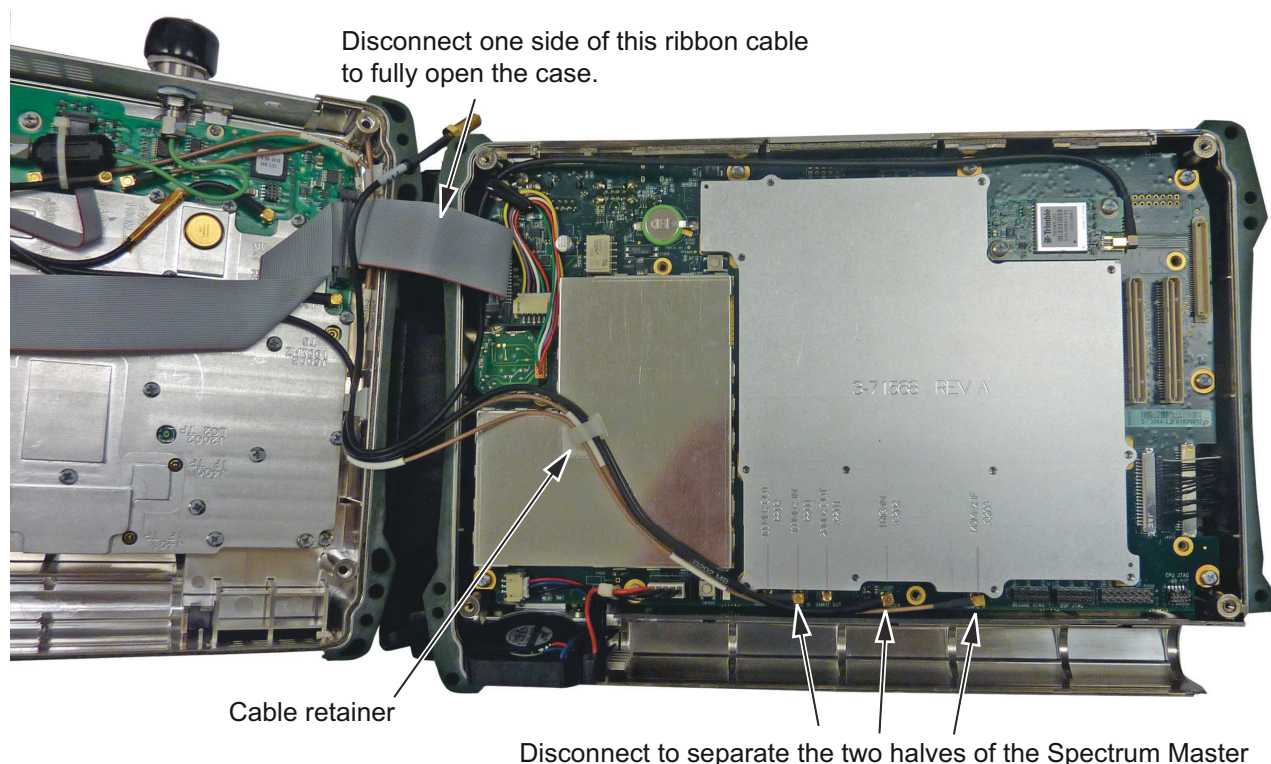
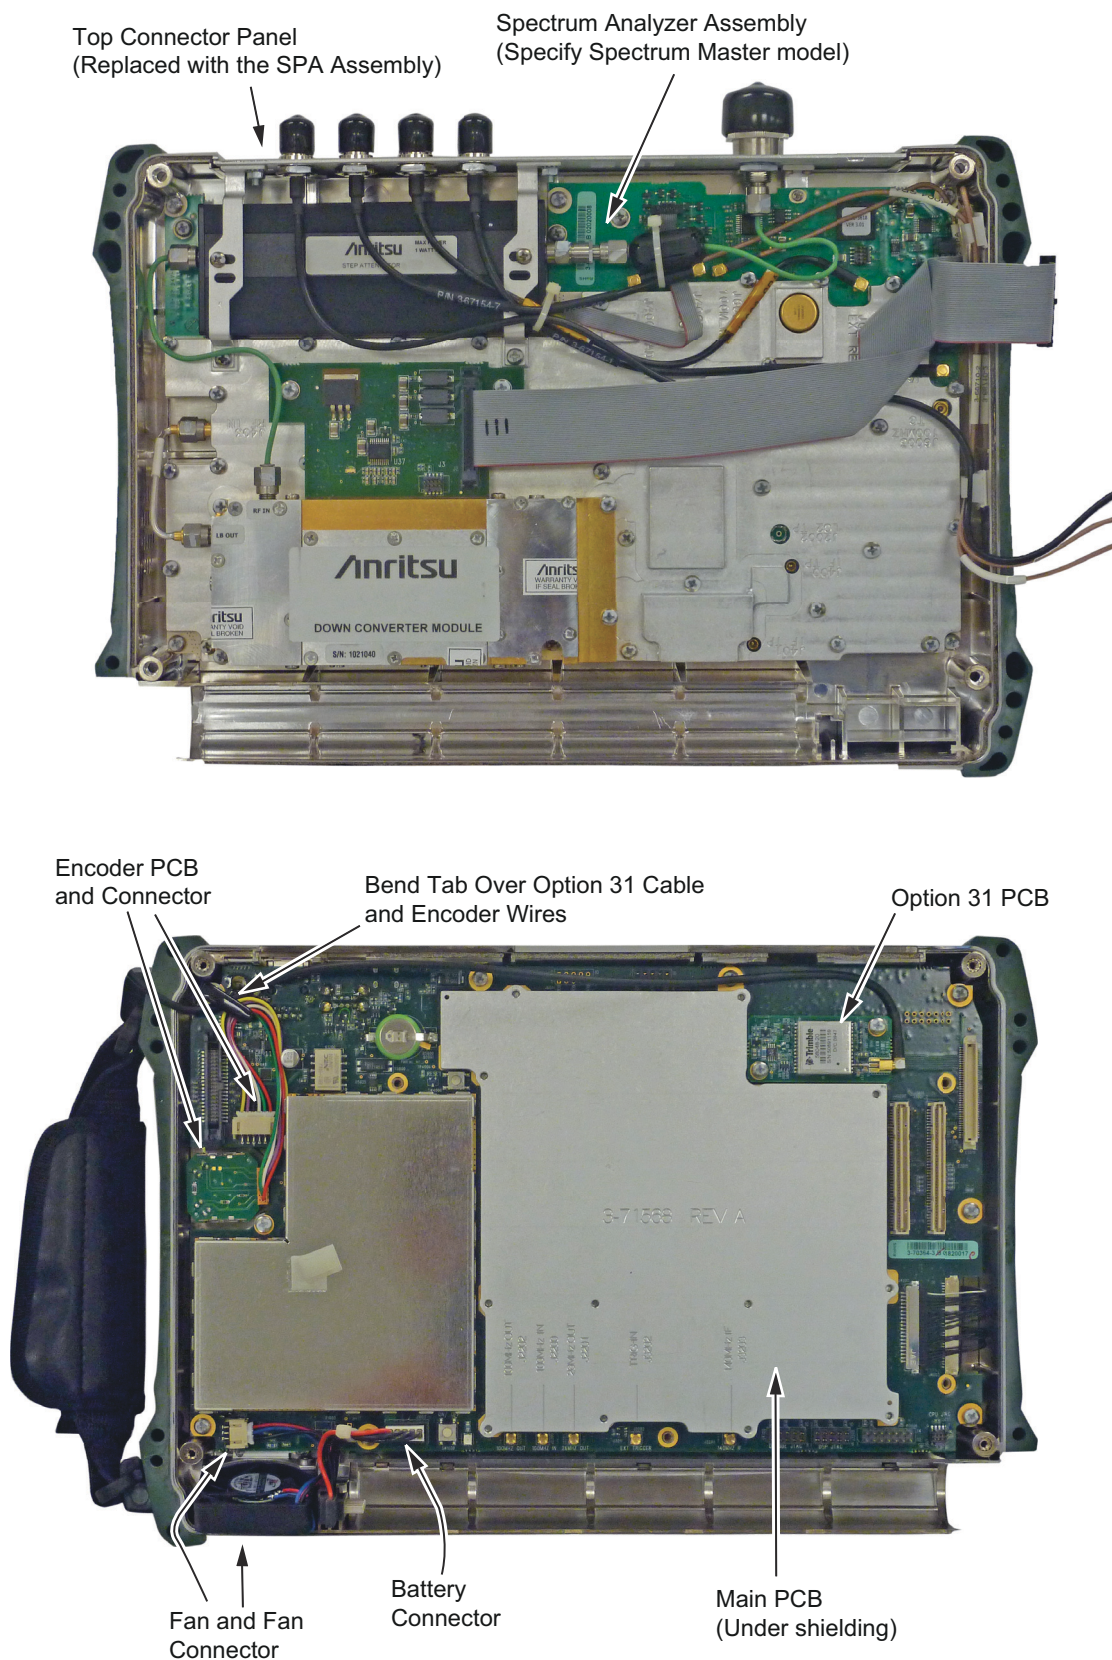

Figure 5-3. Disconnect the Cables Between the Two Halves of the Spectrum Master
Figure 5-4. SPA Analyzer PCB Assembly (Top) and Main PCB Assembly (Bottom)
Do not force or pull the two halves of the case apart completely, there are delicate cables attached between the two halves that must be disconnected first. Refer to Figure 5-3 and Figure 5-4.
9. The two halves of the instrument can now be safely separated (Figure 5-4). Refer to the following sections of this chapter to remove and replace specific components of the instrument.